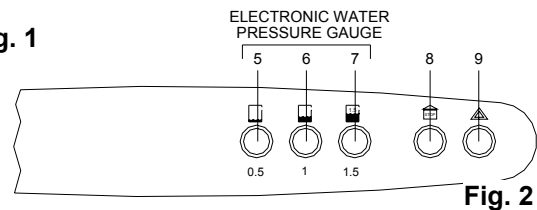

Fig. 2
SELF- DIAGNOSTIC LEGEND (see fig. 2)
- Make sure that 6 and 7 lights are ON (see fig.2, pos. 6 and 7); if light no. 5 is ON, it means water deficiency in the system: open the filling tap located under the boiler and fill the system until a pressure of 1.5 bar has been reached (light no. 7 ON; fig.2) and then **close the filling tap**.
- Make sure that 6 and 7 lights are ON (fig.2, pag I, pos. 6 and 7); if light no. 5 is ON, it means water deficiency in the system: open the tap on the filling loop and fill the system until a pressure of 1.5 bar has been reached (light no. 7 ON; fig.2) and then **close the tap on the filling loop**.
If boiler locks-out (fig. 2 page I), indicator no.9 ON) proceed as follows: